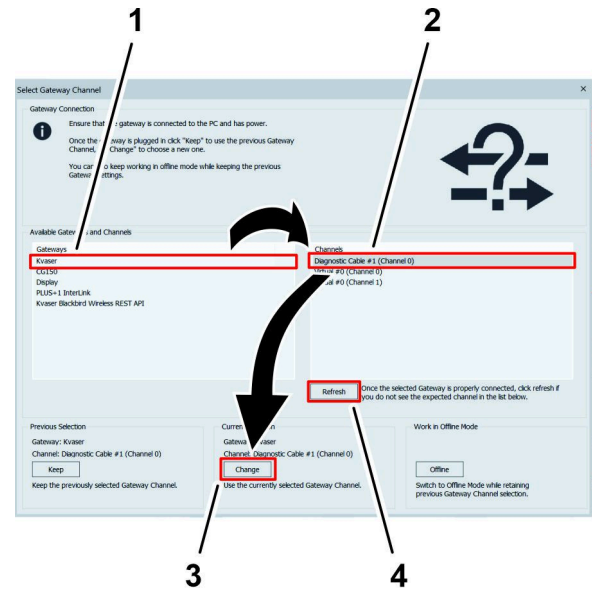

Figure 40
10. On the Select Gateway Channel screen, click the Kvaser option in the Gateways list (Figure 40).
11. In the Channels menu, click the Diagnostic Cable option (Figure 40).
Note: If a diagnostic cable option does not display in the Channels menu, verify that the Toro Diag cable is plugged into the USB port of the laptop computer, press the Refresh button (Figure 40) on the Select Gateway Channel screen, and click the Diagnostic Cable option.
12. Click the CHANGE button under the Current Selection heading (Figure 40).